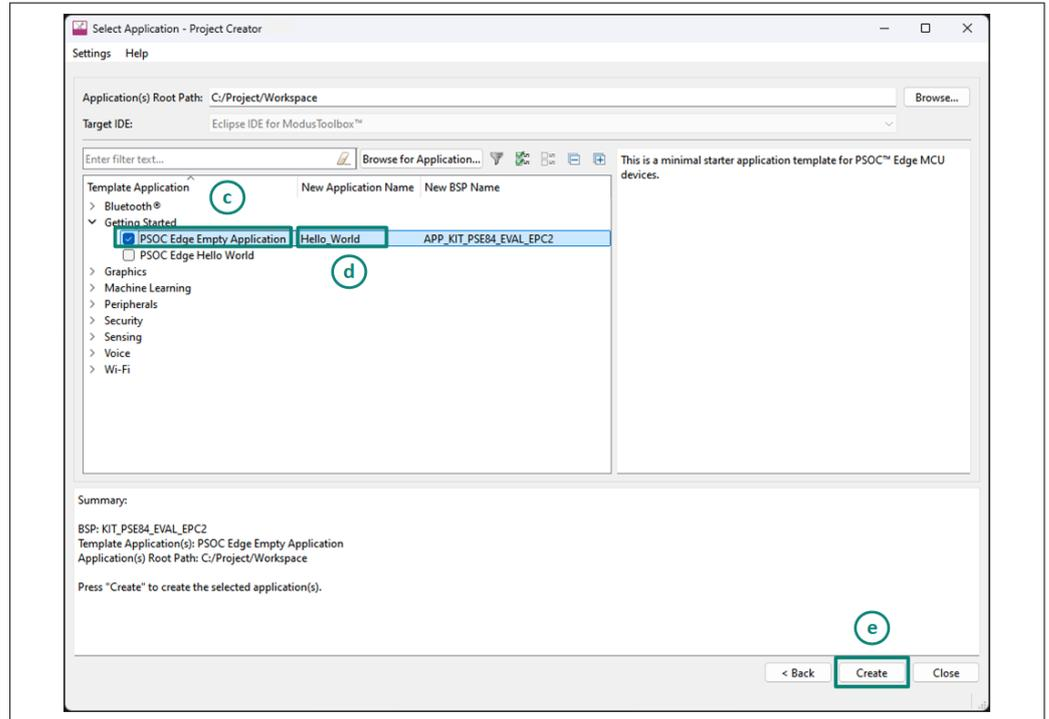

Figure 9 Choose starter application
- c. In the **Select Application** dialog, select **Empty App** starter application, as shown in Figure 9